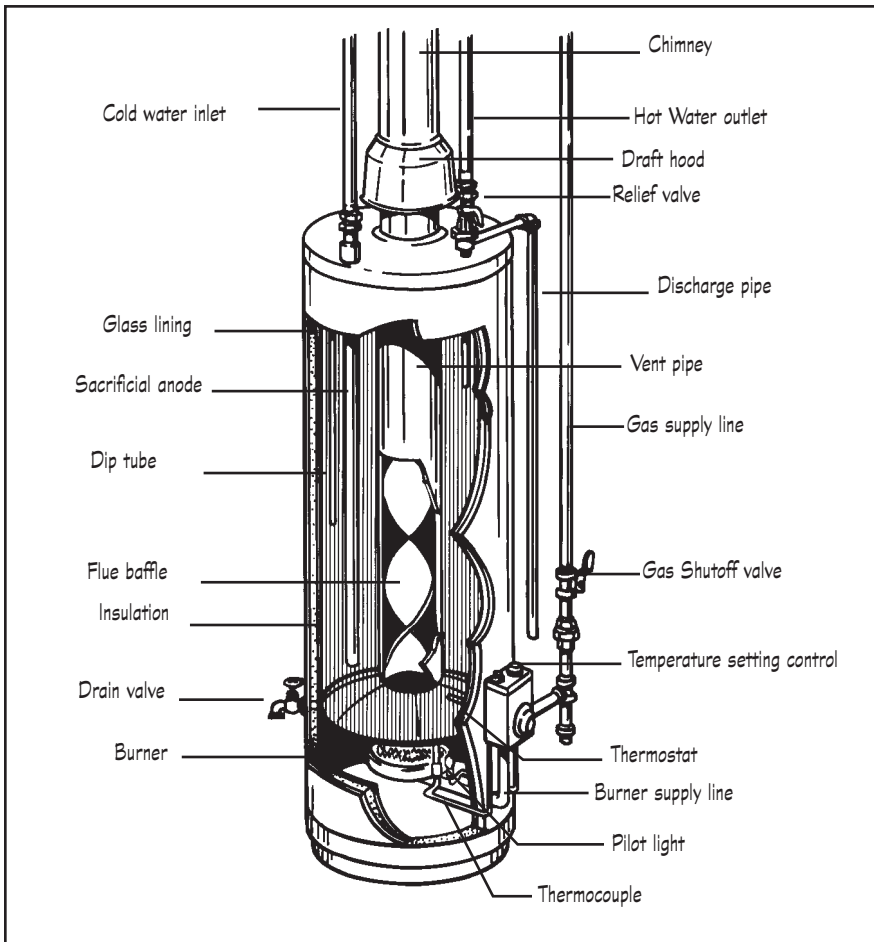

Figure 1
**Gas hot-water heaters.** The most common size natural gas water heater is 40 gallons. Typical gas models have a burner under the tank and an exhaust stack/heat exchanger, which runs through the middle of the tank (Figure 1). The exhaust stack has two functions: it is a vent for the burner and it transfers heat to the water. A double-wall (class B) venting system is used to expel flue products through the roof of the